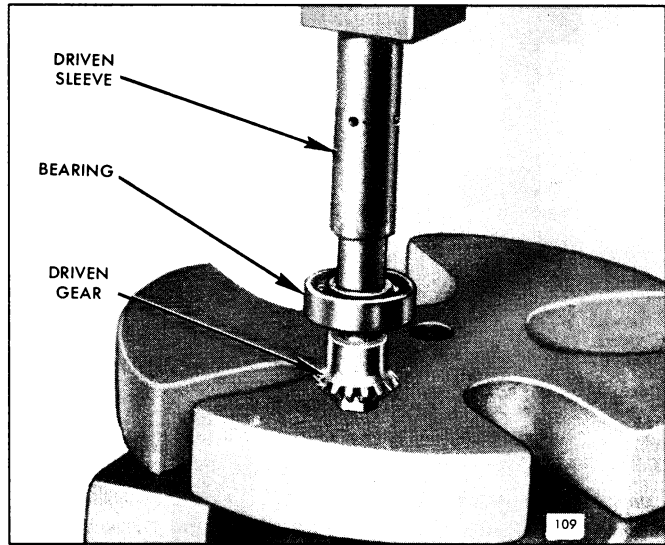

Fig. 8 - Installing Bearing and Sleeve on Driven Gear
- c. Place the driven gear, bearing and sleeve assembly on an arbor press, with a spacer under the gear to support the gear teeth above the bed of the press (Fig. 8). Then, press the sleeve and bearing tight against the shoulder on the gear.